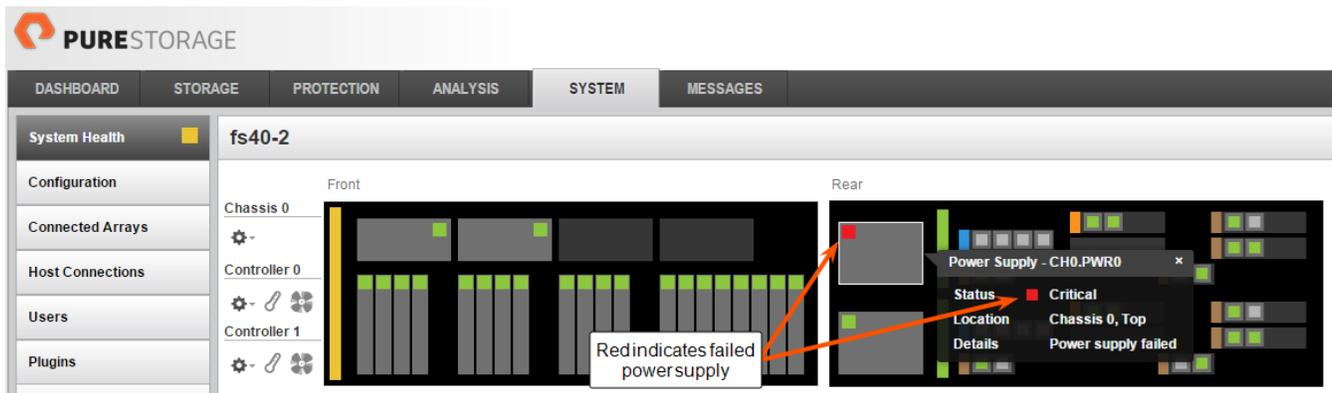

Figure 4-1. GUI Indication of Power Supply Failure
- Use the Purity GUI. Select **System > System Health**. A red rectangle in the upper left corner of a power supply icon indicates a failure (see Figure 4-1).